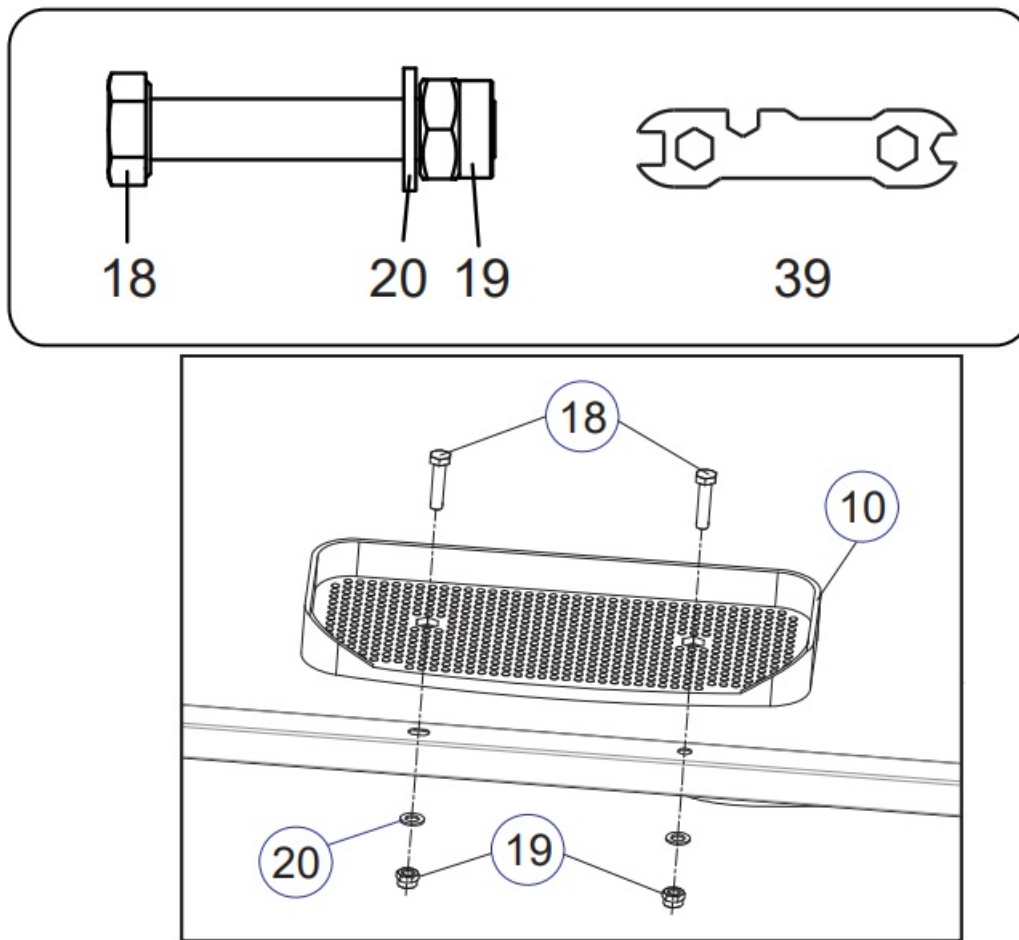

Figure 10
Use the Multi-function Wrench (39), M8x45 Hex head bolt (18), $\Phi 8$ Flat washer(20) and M8 Nylon nut(19) supplied to assemble the Left Pedal (10) and tight them properly. (see fig.10)